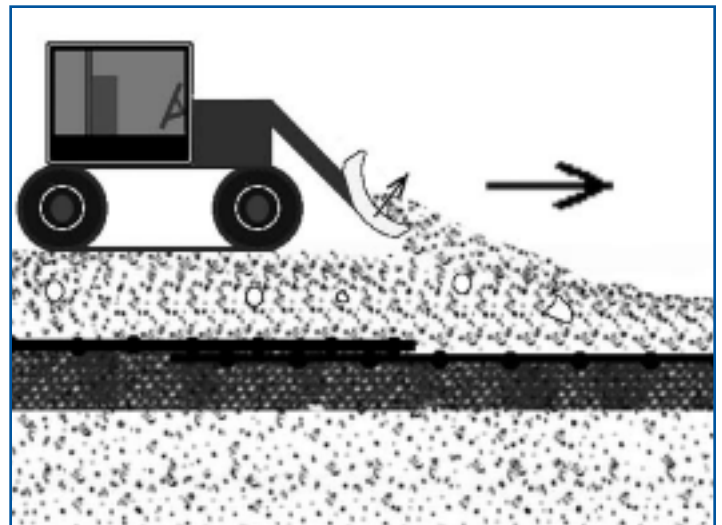

Figure 1: Geogrid overlapping and fill spread direction
- * To minimize geogrid wrinkles caused by the shoving action, fill material shall be pushed forward and spread while gradually lifting the blade or bucket, as shown in figure 1.